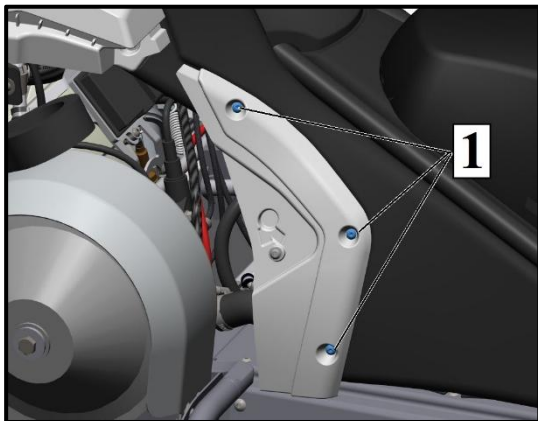

Fig.11
3. Unscrew 3 screws (pos. 1, Fig. 11) of the left plastic lining of the fuel tank. Tightening torque - 3.5 N * m